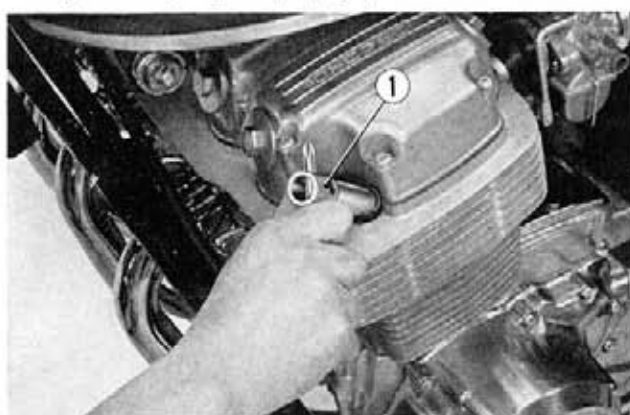

Fig. 7-13 ① Spark plug wrench
1. The spark plugs in the No. 2 and No. 3 cylinders are difficult to reach and if care is not taken during the removal and installation of these spark plugs, it is possible for the plugs to be dropped and become lodged in the cylinder head cavities. (Fig. 7-13)